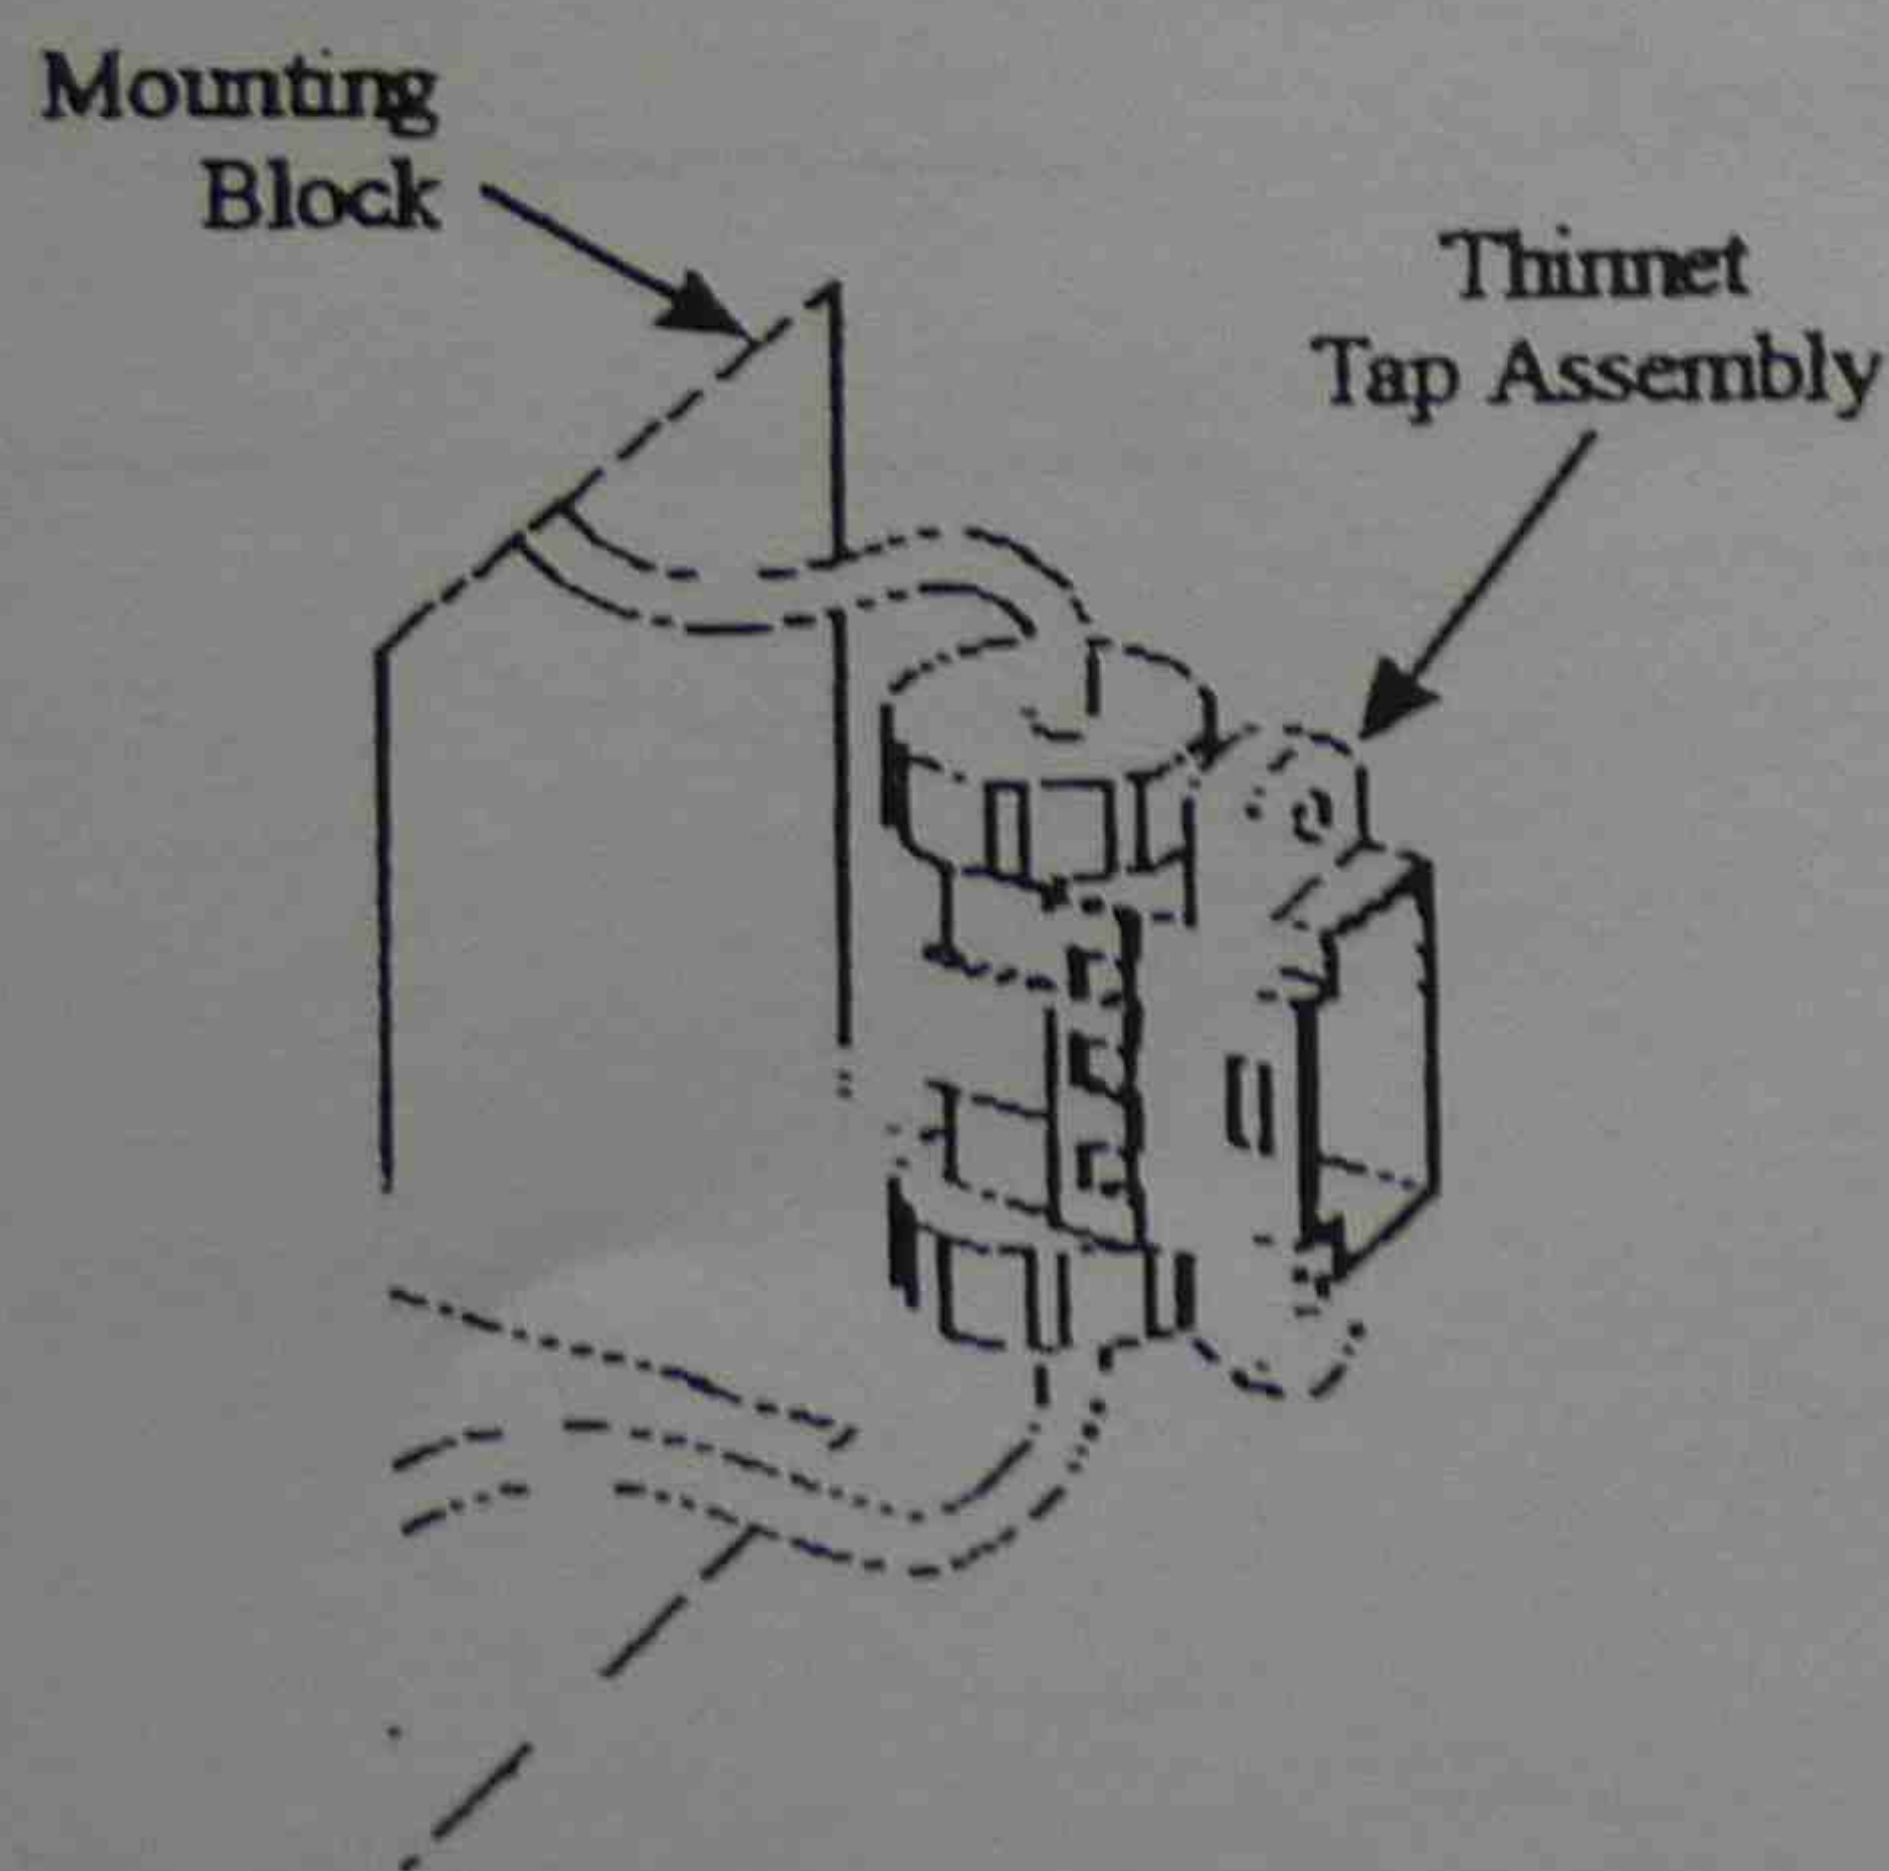

Figure 92 Installing the Thinnet tap
3. Install the first Thinnet tap following the manufacturer's instructions and using Figure 92 as a guide.
5. Install the second Thinnet tap following the manufacturer's instructions using Figure 92 as a guide.